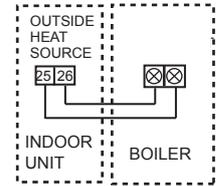

Fig. 6-11
1. If the external heat source needs one switch signal to control the input situation, then directly connect the corresponding wire terminal of this machine with the corresponding terminals of the external heat source, as describing in Fig.6-11.